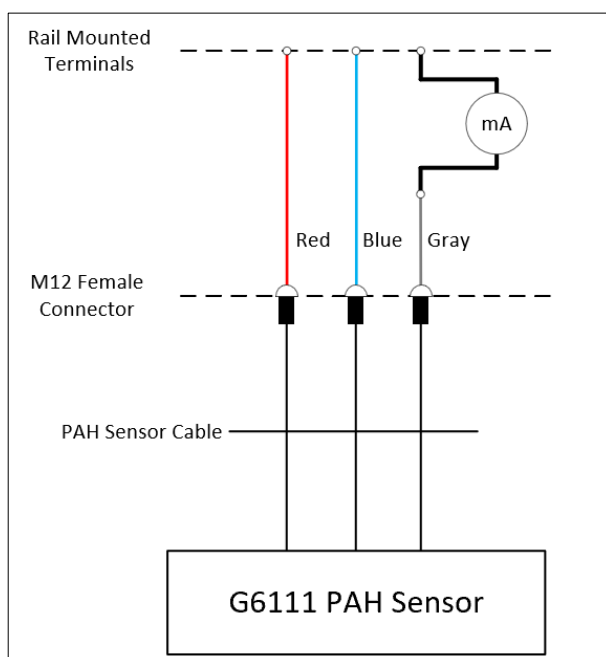

Figure 12-1: mA Measurement using Multimeter – G6111 PAH Sensor
- A G6111 supports the following means of diagnostics via the 4...20 mA signal – Figure 12-1.